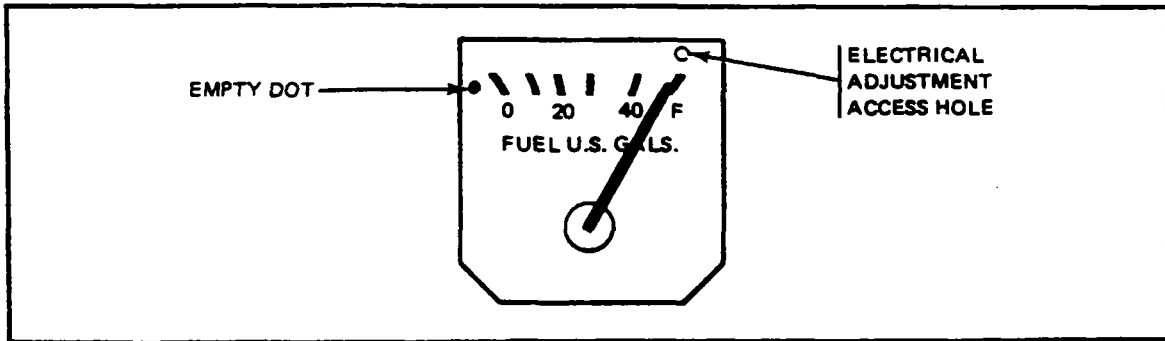

Figure 9-3. Fuel Gauge
i. With the tanks full and master switch "ON," the needle should be centered on the "F" radial mark within ± 1 needle width. If not within this tolerance, adjust the electrical adjustment (refer to Figure 9-3) just sufficiently to bring it within tolerance; do not center the needle.